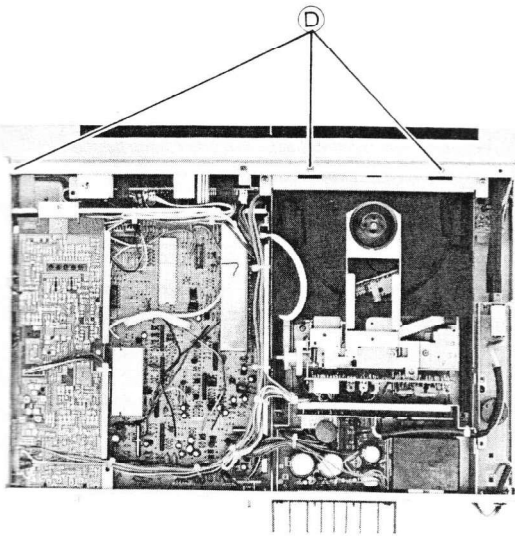

Figure 7
7. Remove three screws (D) ( $3\phi \times 6\text{mm}$ ), and three screws (E) ( $3\phi \times 8\text{mm}$ ), and the front panel can be removed from unit. (Figure 7 and 8)